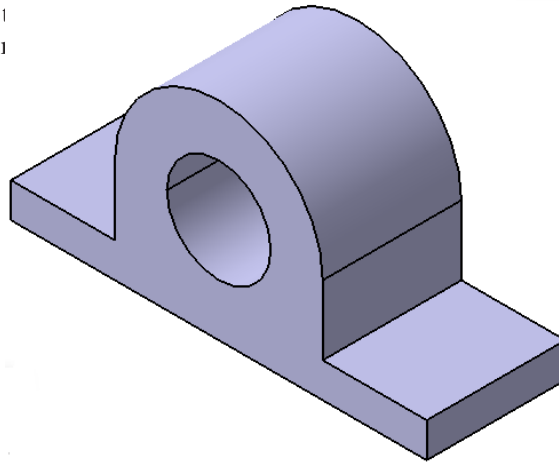

Figure 2-65 The final model for Tutorial 1
4. Orient the view of the model using the **Isometric View** tool from the **View** toolbar. The result is shown in Figure 2-65.